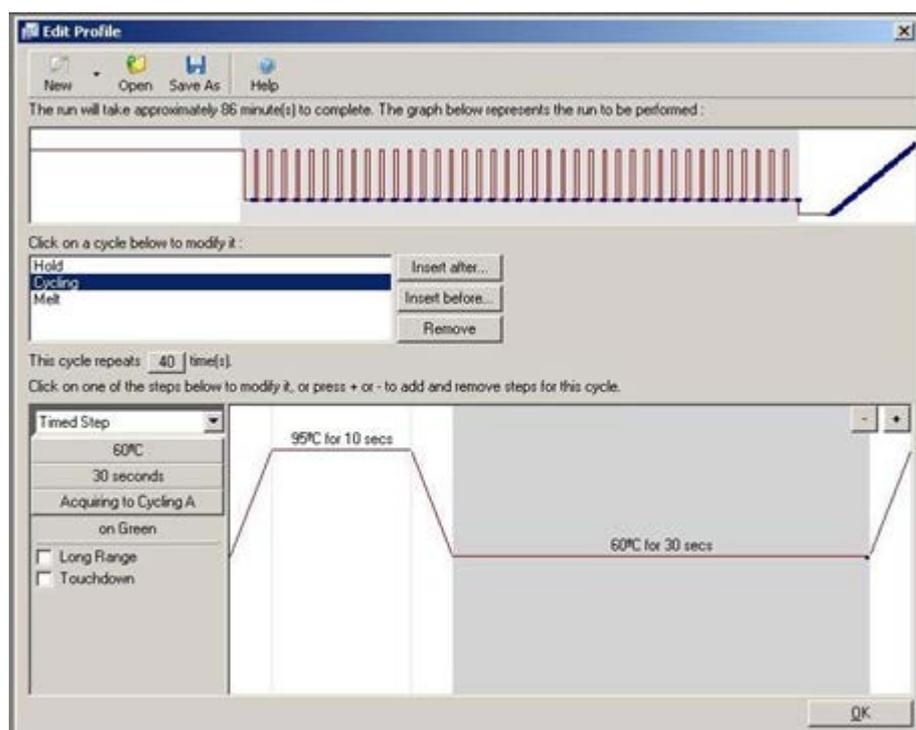

Figure 1. "Edit Profile" tab.
7. In the "Edit Profile" window (Figure 1), adjust parameters to reflect the following: